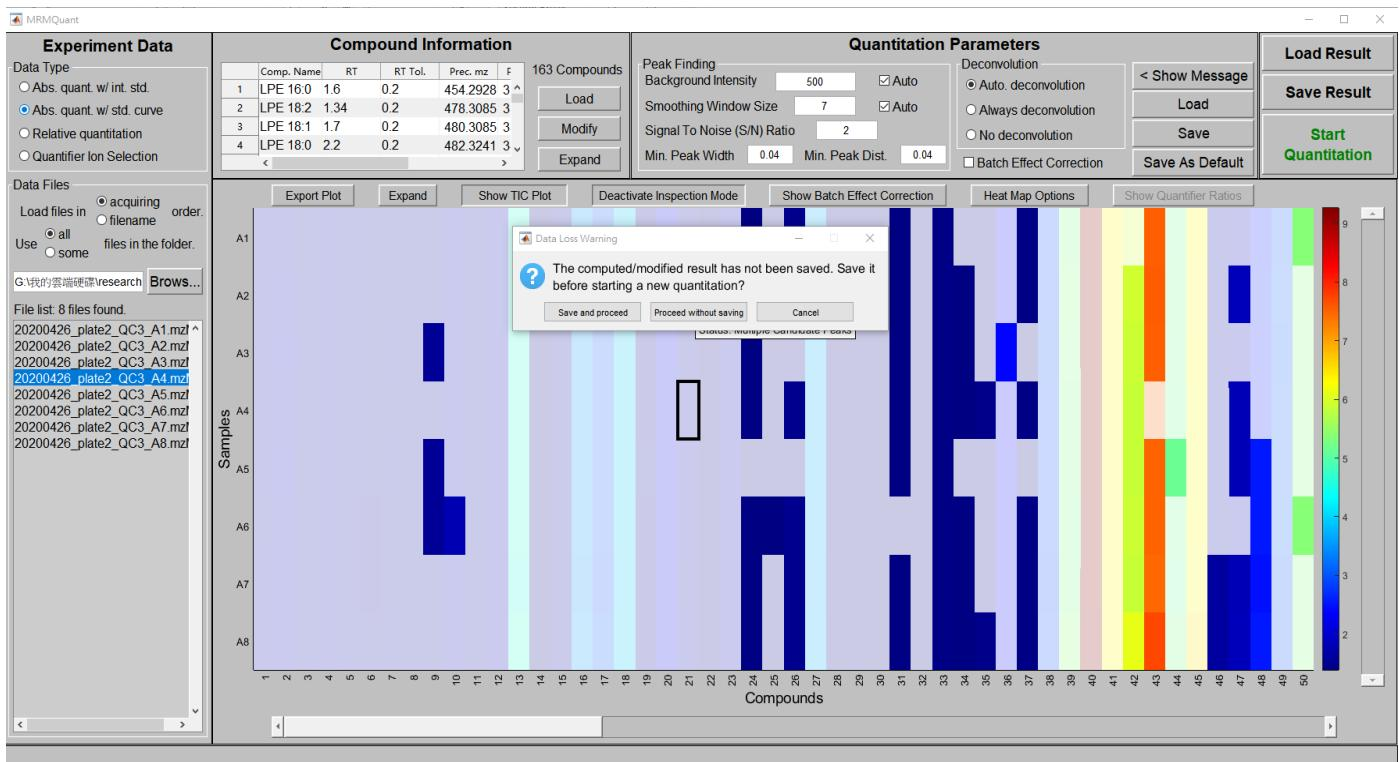

Figure 65. A question window pops up when a new data type is selected whereas the quantitation result has not been saved.
MRMQuant allows users to start a new quantitation during or after an existing quantitation task. A new quantitation can be achieved by changing at least one of the following items (1) data type, (2) test sample files, (3) method file, and (4) quantitation parameters. If an existing quantitation is unsaved and the user attempt to change any of the items, a question window will pop up to inquiry whether the user intends to (1) save and proceed, (2) proceed without saving, or (3) cancel the change(s), as shown in the Figure 65. After that, the user can proceed to input required data and perform a new quantitation.